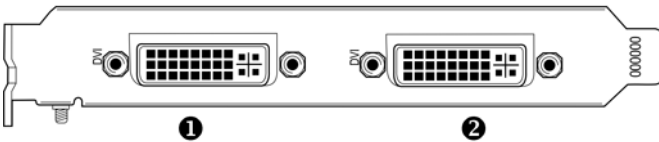

Figure 6:
10. Connect your BARCO E-2320 C Displays to the display controller(s) for your BARCO Display System using the cables supplied. Make sure all cables are securely connected before turning on your system. Figures 6 and 7 show the types of connections are available: